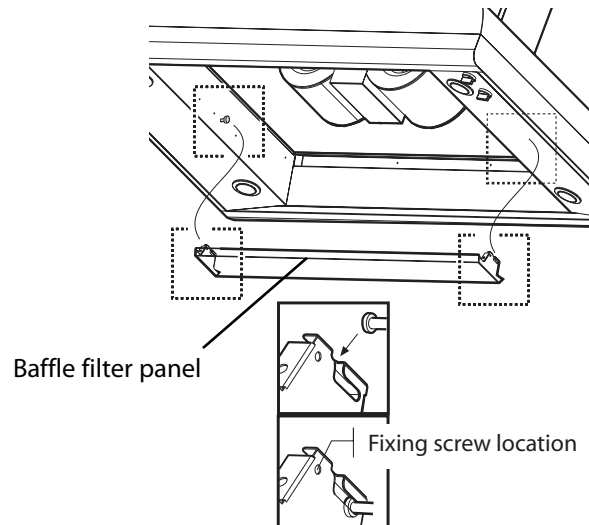

Fig. 12
2. Snap the central baffle filter panel into the place so the both rails engage with side pins on both sides of hood. Drive 2 screws (1 on each side) through baffle filter panel hole to hood. See Fig. 12.